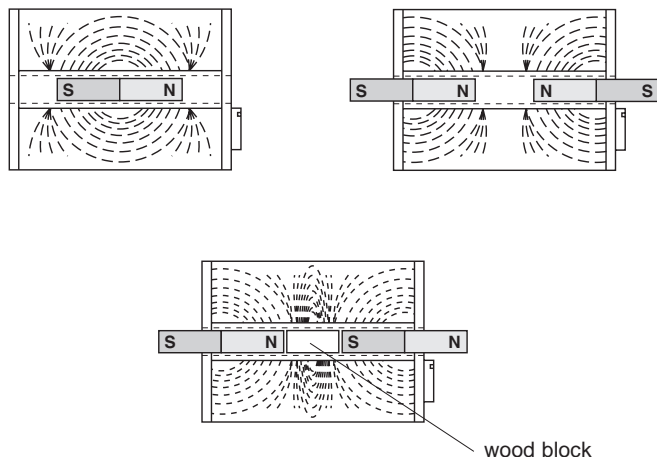

Figure 2: Magnet Position Inside Vessel
2. Place one or more magnets into the demonstrator as shown in Figure 2. At first the fillings will arrange themselves along the lines of the magnetic field, then they will cluster around the magnetic poles.